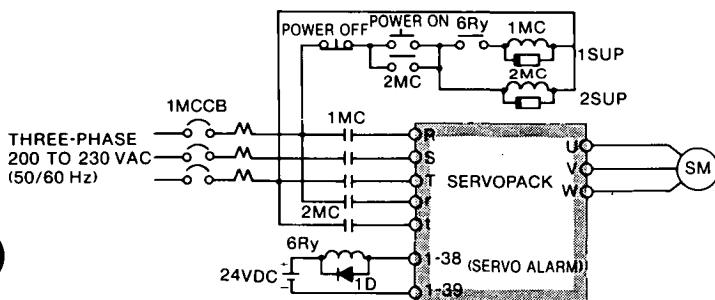
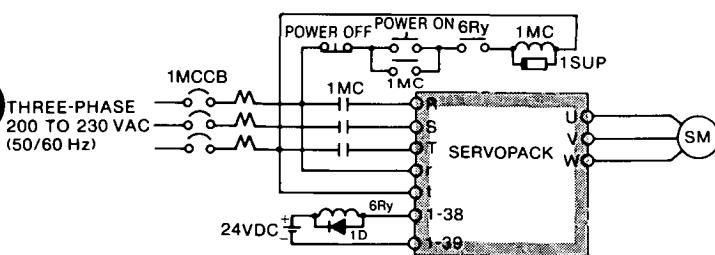

Fig. 6.1 Connection Example for Simultaneous Control Power ON/OFF
Fig. 6.2 Connection Example for Main-circuit Power ON/OFF
Arrange the sequence so that the power is simultaneously supplied to the main circuit (R.S.T) and the control circuit (r,t), or supplied to the control circuit first, then the main circuit (Figs. 6.1 and 6.2).
Arrange the sequence so that the power is simultaneously cut (including momentary power failure) (Fig. 6.1), or the power to the main circuit is cut first, then the control circuit (Fig. 6.2). The order is the reverse of the power ON sequence. Precautions for connections in Figs. 6.1 and 6.2 are as follows.
- When power is supplied to the power ON/OFF sequence shown in Fig. 6.1, the normal signal is set (6Ry is turned ON) in the control circuit after a maximum delay of 1 second.
Hold the main-circuit power ON signal for approximately 1 second. However, this is unnecessary in the sequence in Fig. 6.2, because the control power is always turned ON.